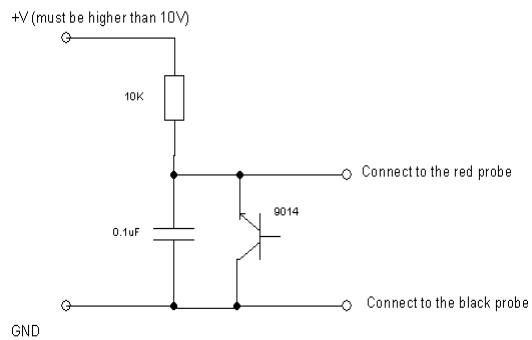
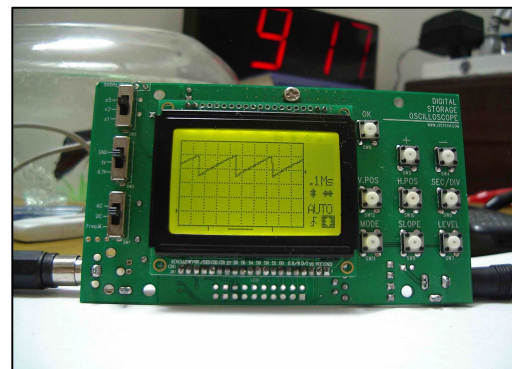

Fig. 4
Fig. 5
Fig. 4 is a simple saw signal generator. We can use the scope to observe its output. Build the circuit according to Fig. 4 and connect power and the scope.
- 2) Connect probes as stated in Fig. 4. Power the circuit. You should see waveform similar to that shown in Fig. 5.